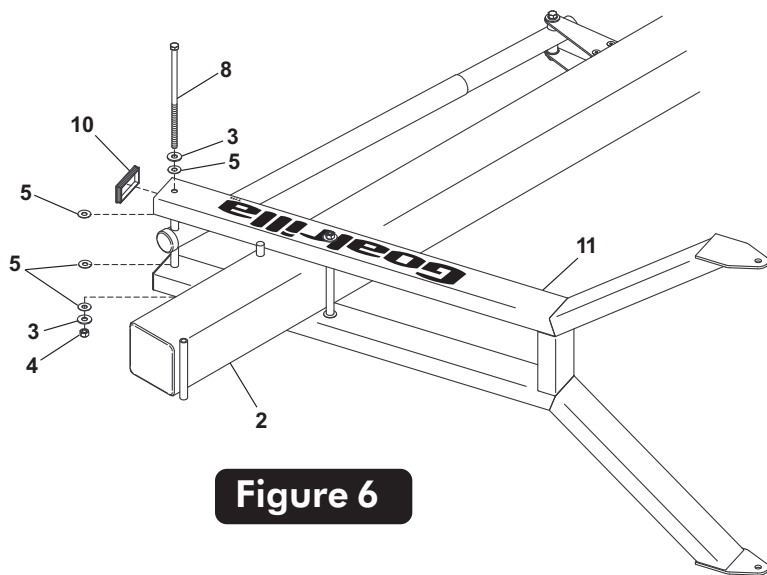

Figure 6
6. Secure Actuator (#16) to Lower Arm (#11) using one bolt (#8), two flatwashers (#3), four plastic washers (#5) and one hex nut (#4). See Figure 6. Tighten both bolts (#8) securing Lower Arm (#11).